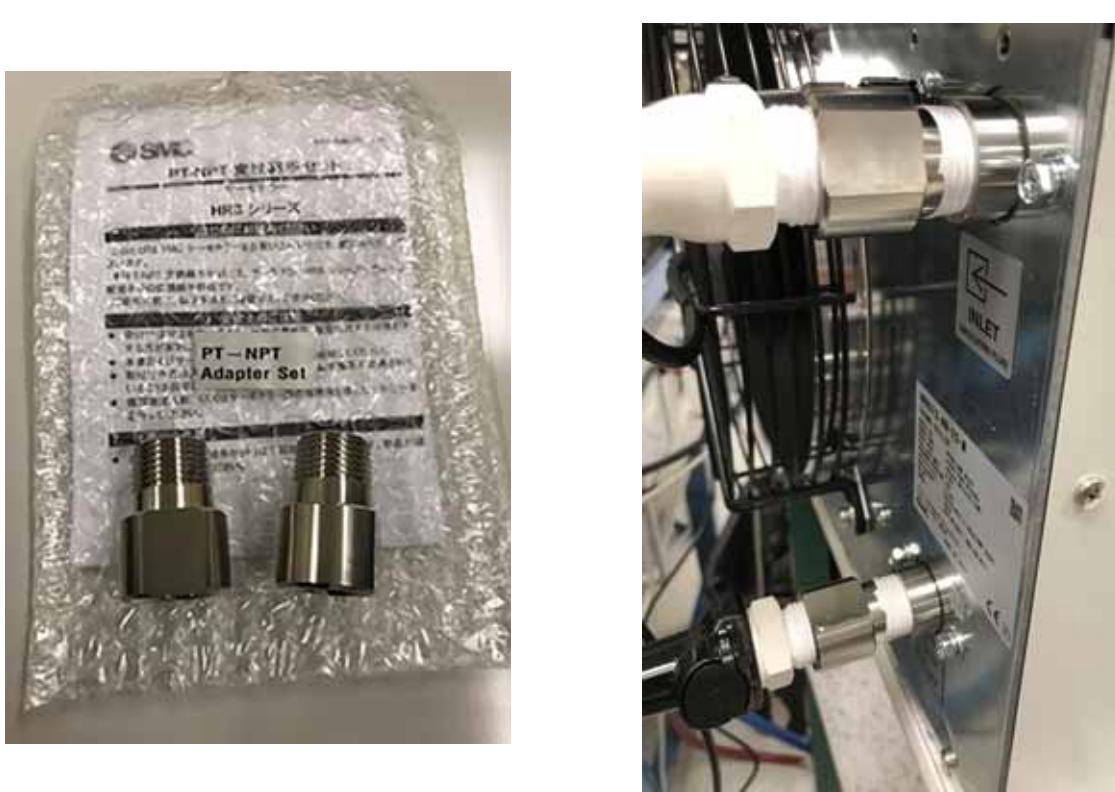

Figure 4-5. Installing Fitting Adapters
15. Install fitting adapters into rear of chiller. The chiller uses PT threads and the fittings are NPT threads. See Figure 4-5.
16. Wrap all threads with Teflon tape to prevent leaks. Always wrap in a clockwise direction. See Figure 4-5.